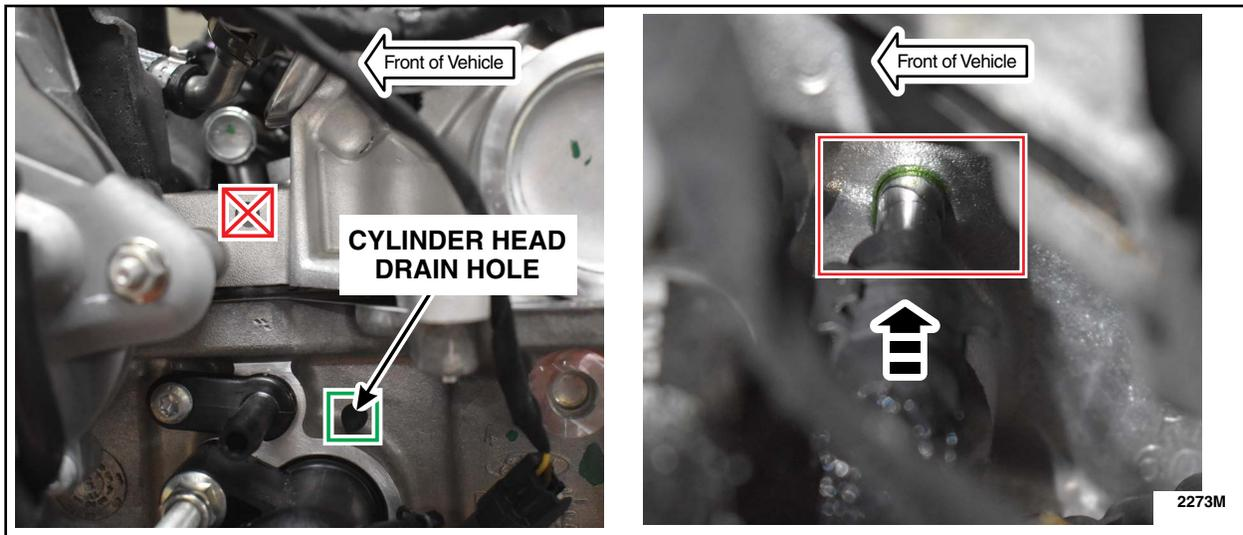

FIGURE 16
30. Insert tube into the cylinder head drain hole until fully seated against the larger diameter flange section, as shown. See Figure 16.